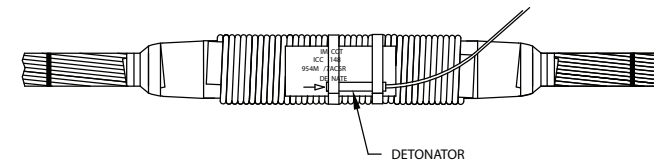

Fig. 4
4. Locate the detonator at the center of the Jumper Connector. Tape securely in place. See Fig. 4.